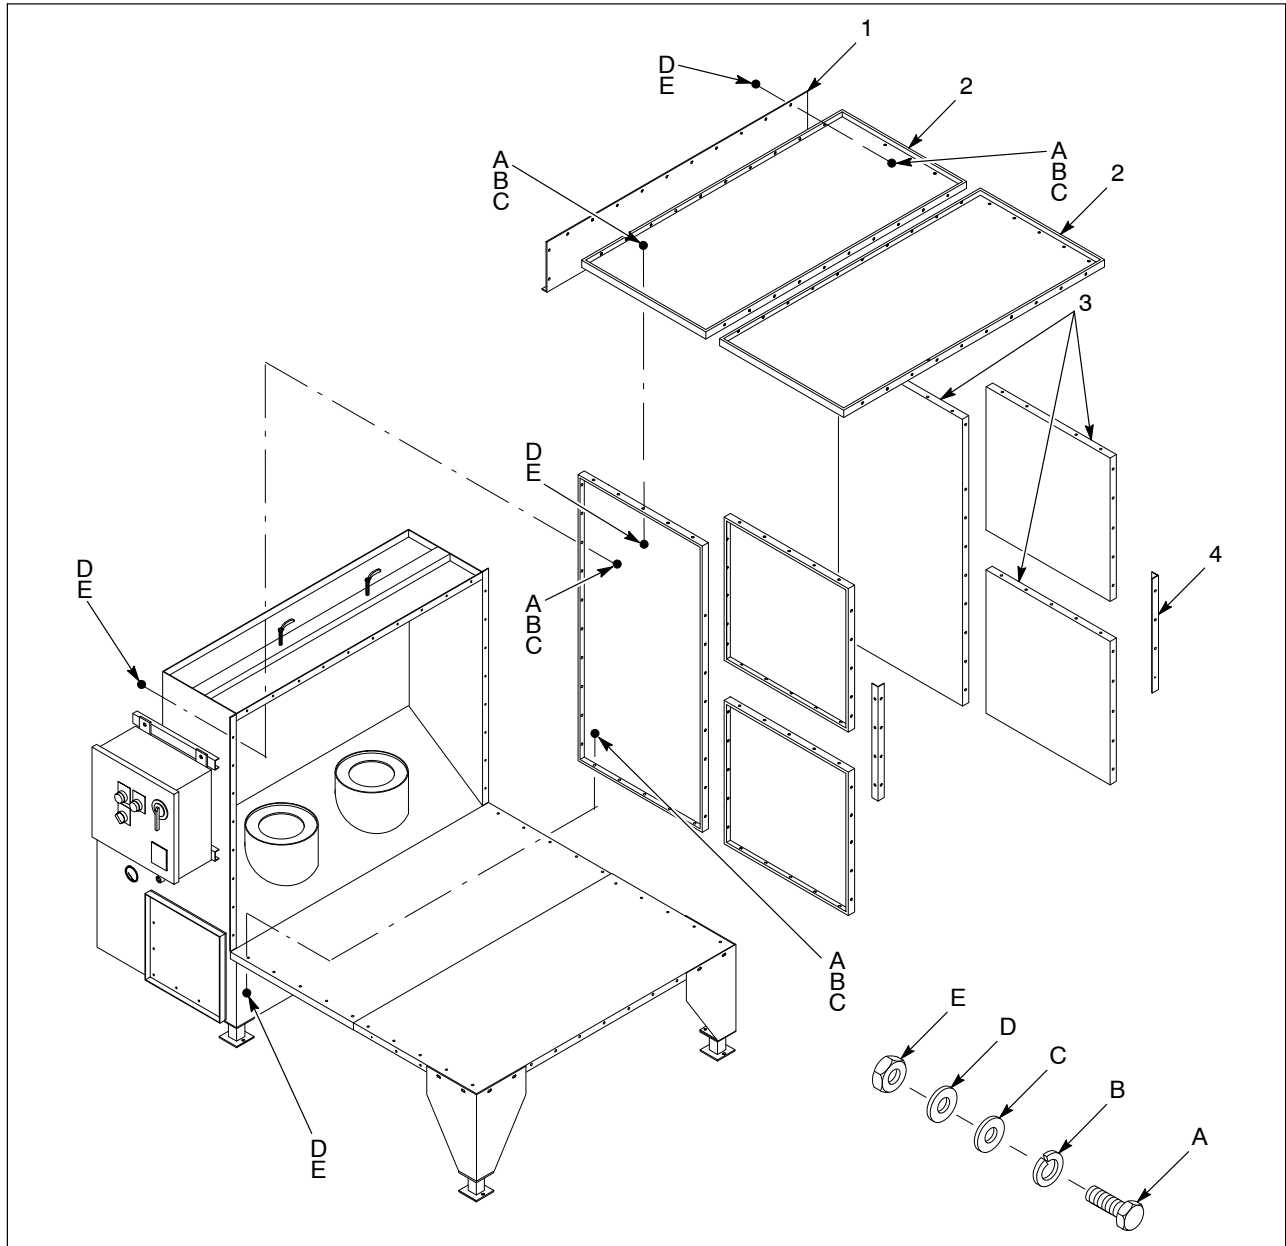

Figure 3-3 Stainless Steel Enclosure Assembly
- a. See Figure 3-3. $\frac{3}{8}$ -16 nylon hex bolts (A) and nylon nuts (B) for joining polypropylene panels and attaching them to the collector module and floor panels.
1. See Figure 3-3. Use the fasteners shown to bolt the side panels (3) to the floor panels, to each other, and to the collector module.
2. Bolt the back panel (1) to the side panels and to the collector module.
3. Bolt the roof panels (2) to the side panels.
4. Bolt the angles (4) to the front edge of the side panels. Overlap the joint between the upper and lower panels evenly.